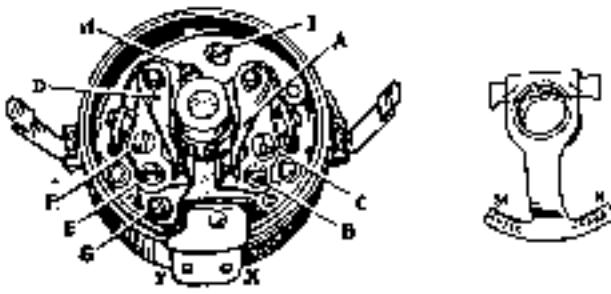

Fig. 2
To synchronize breaker arm on 8 cylinder distributors with 8 lobe cam.—One set of contact points is stationary and the other set is movable. The stationary set is adjusted first and synchronizing is completed by adjustment to the movable set of points. To set contact opening of arm (A), Fig. 2, turn distributor shaft in its direction of rotation which is clockwise viewed from top until rubbing block of breaker arm (A), is on lobe of cam. Loosen screw (B) and turn screw (C) to get contact opening which should be from $.018"$ to $.024"$ and preferably $.022"$. Tighten screw (B).
Two types of 8 cylinder distributors were used on Auburn cars. The first type has an 8 lobe cam with two sets of contact points in series opening simultaneously. The second or latest type (Fig. 2) has a 4 lobe cam with two sets of contact points in parallel.